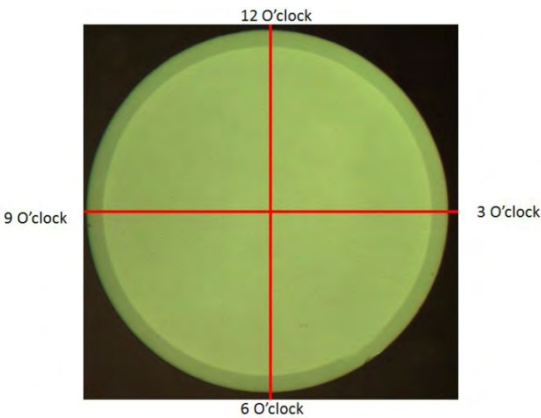

Figure 10: Inspection Criteria
a. Allow ONLY 4 small particles per quadrant as defined below in Figure 10. |